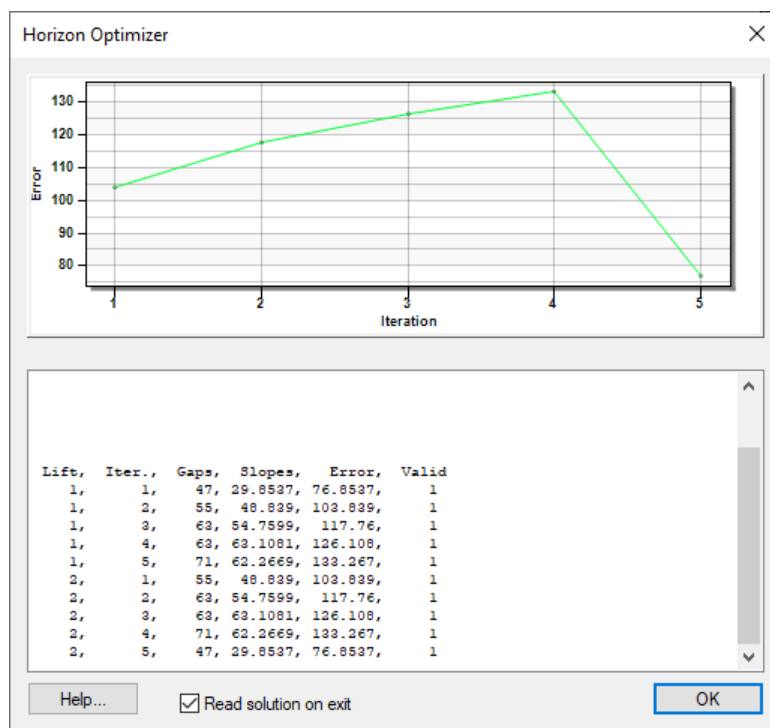

Figure 2 The Horizon Optimizer dialog
2. Select the *Start from scratch* option and click **Run...** to close the *Auto-assign Horizons* dialog and bring up the *Horizon Optimizer* dialog (Figure 2).